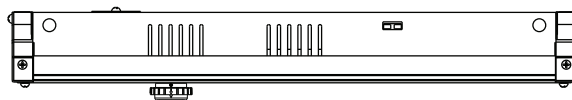

FIG. 4
4. Rotate the outer ring until the arrows align (see **FIG. 4**).